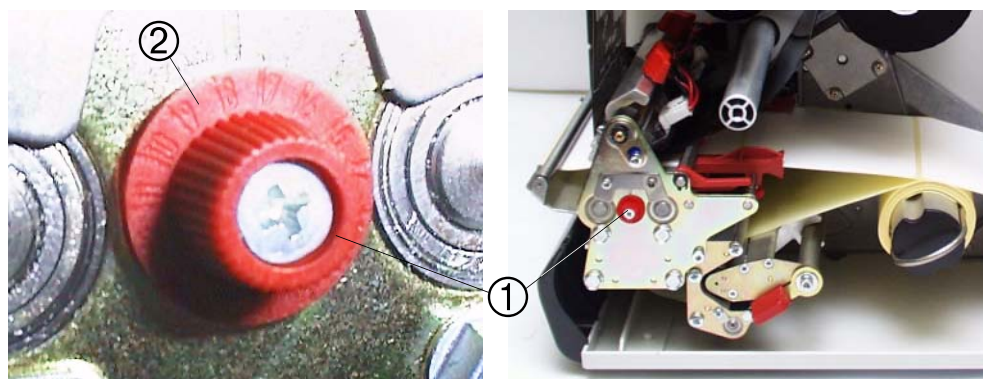

Fig. 1: The red adjusting knob (1) is used to adjust the lateral position of the punch light barrier (figure: dispenser version).
The torques of the ribbon unwind mandrel (1) and ribbon rewind mandrel (2) can be set using the red plastic hexagons on the ribbon mandrels. If these are turned clockwise, the torque increases (Fig. 1: dispenser version).